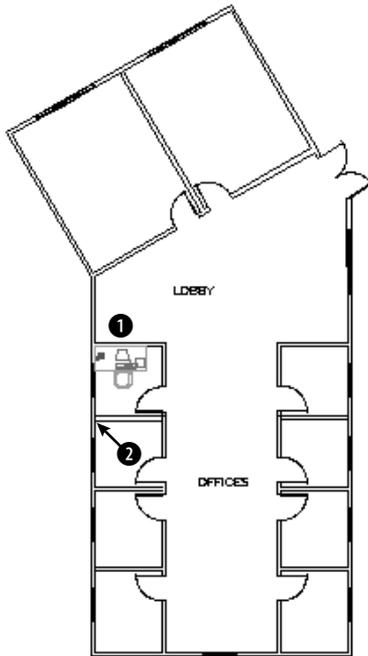

Figure 18-15: The office plan.
3. Choose Open from the Standard toolbar. Open *ab18-f-2.dwg* from the CD-ROM. This is the plan of an office building, as shown in Figure 18-15.
5.  Choose Paste from Clipboard from the Standard toolbar. At the Specify insertion point: prompt, pick ❶ in Figure 18-15. This action inserts the arm-chair in the lobby using the default scale and rotation.
10. Use Zoom Window to zoom in to the area around ② in Figure 18-15. At the prompt, pick ②.